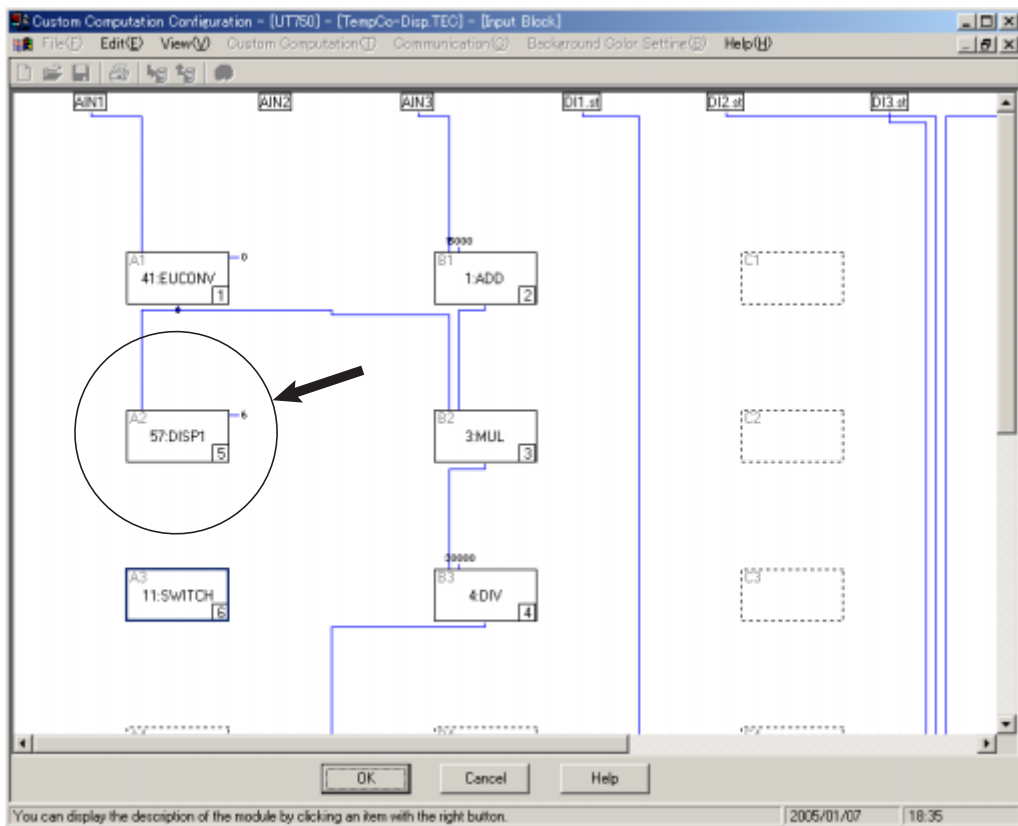

Figure 12.3.3 Example of the [Input Block] Dialog Box where the SWITCH Module Is Registered As the Fifth-run Module
- (3) Click the <Arithmetic Operation> index.
- (4) Double-click <11: SWITCH>. The SWITCH module is registered with the [Input Block] dialog box, as shown in Figure 12.3.3.